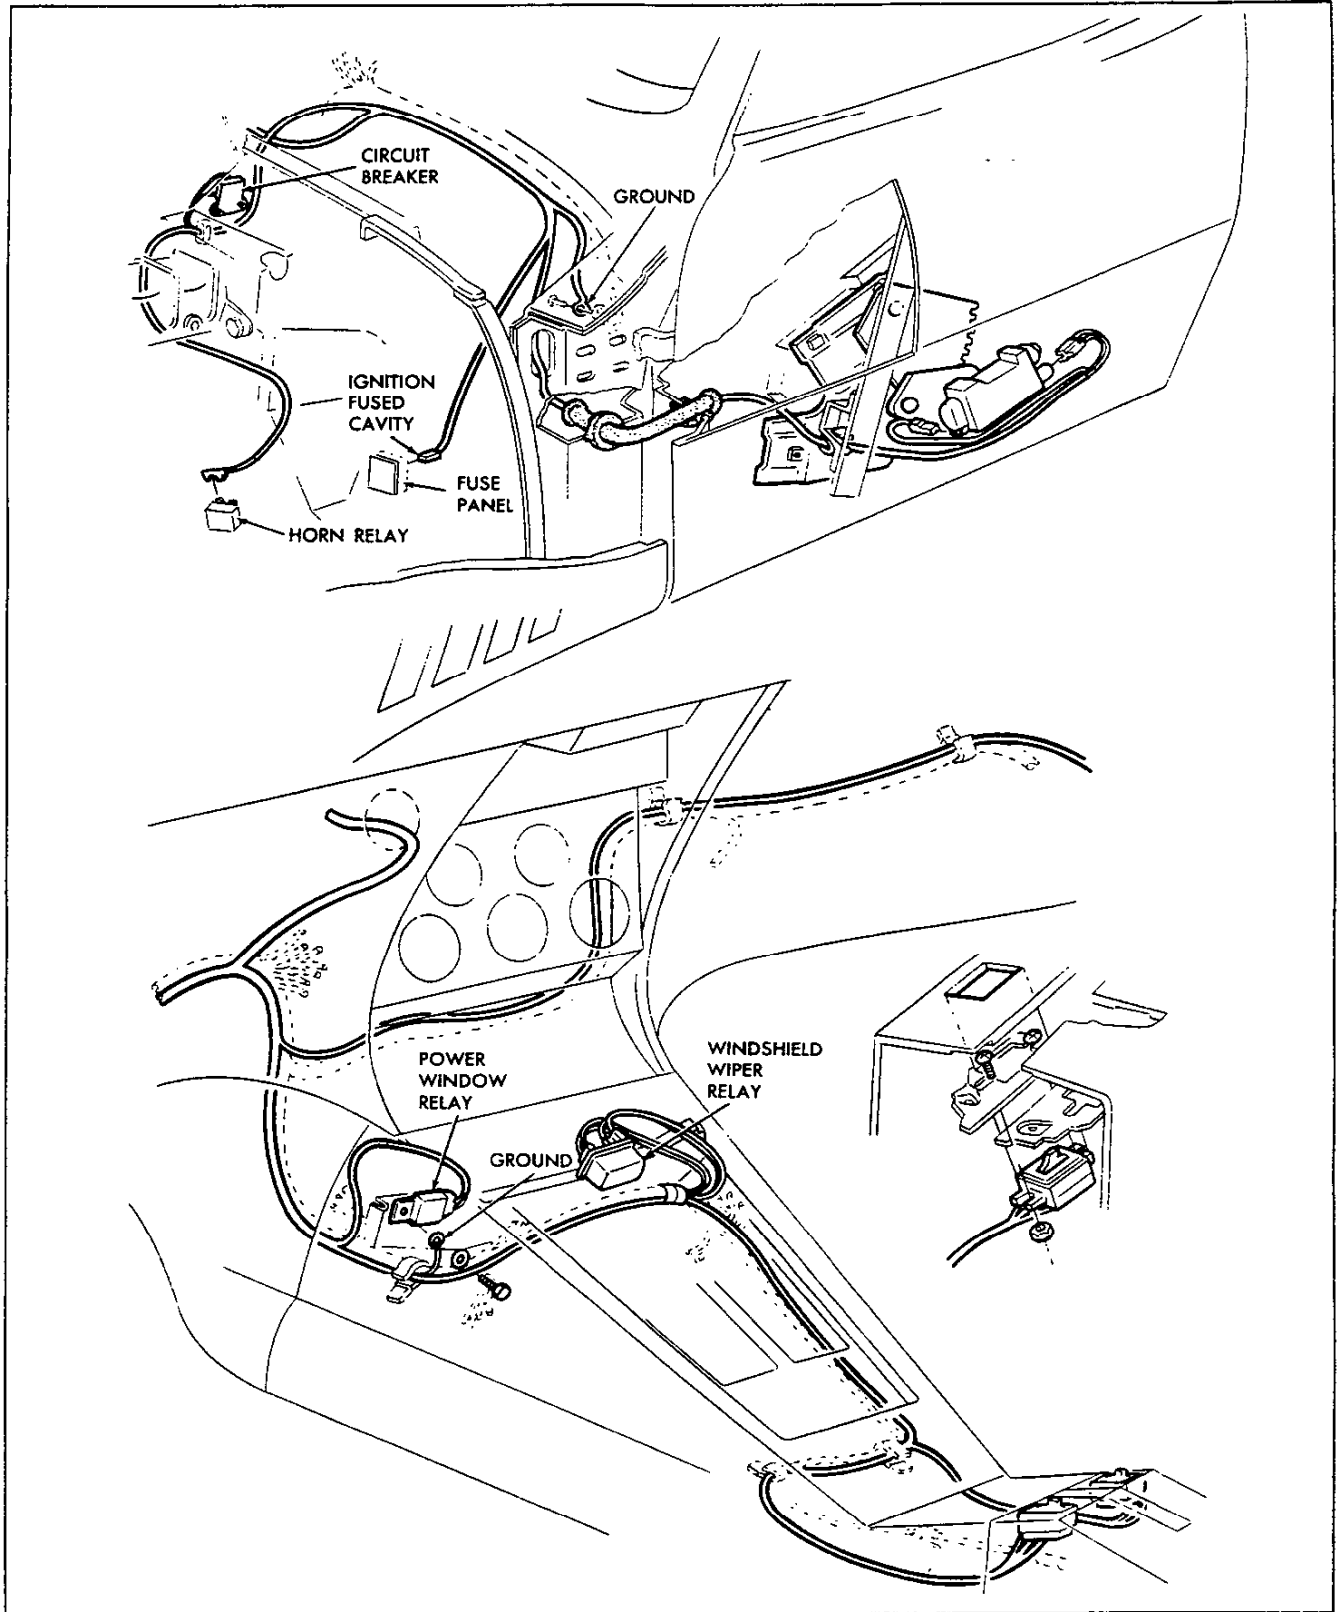

Fig. 34—Power Window Regulator Wiring
In the case that window will not operate, check electrical connections first. Figure 34 illustrates location of junctions, switches, and circuit breaker.
**CAUTION:** Electrical connectors must be removed from window lift motor before performing any operation on the regulator. Figure 34 illustrates location of regulator on door and wiring.